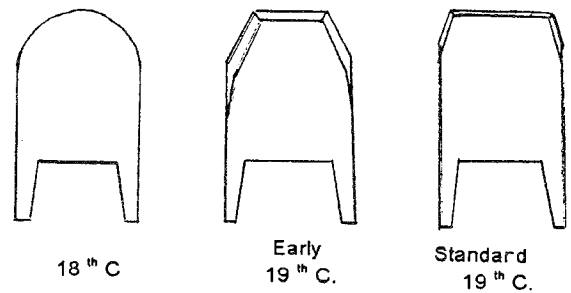

Figure 1. Wedges
3. The style of the wedge (if it is original). Early wedges were highly individualized, reflecting the maker's aesthetic taste and the training he had received. Fig. 1 shows some of the different styles found in 18th century molding planes. The early Jo. Fuller wedge is relieved (cut away) in the back behind the finial. The relieved wedge is found frequently in late 18th century southeastern Massachusetts planes. The Sleeper wedge originated by John Sleeper (1754-1834) of Newburyport, MA, was subsequently adopted by other planemakers in that area. Francis Nicholson, the first documented American planemaker, who worked before